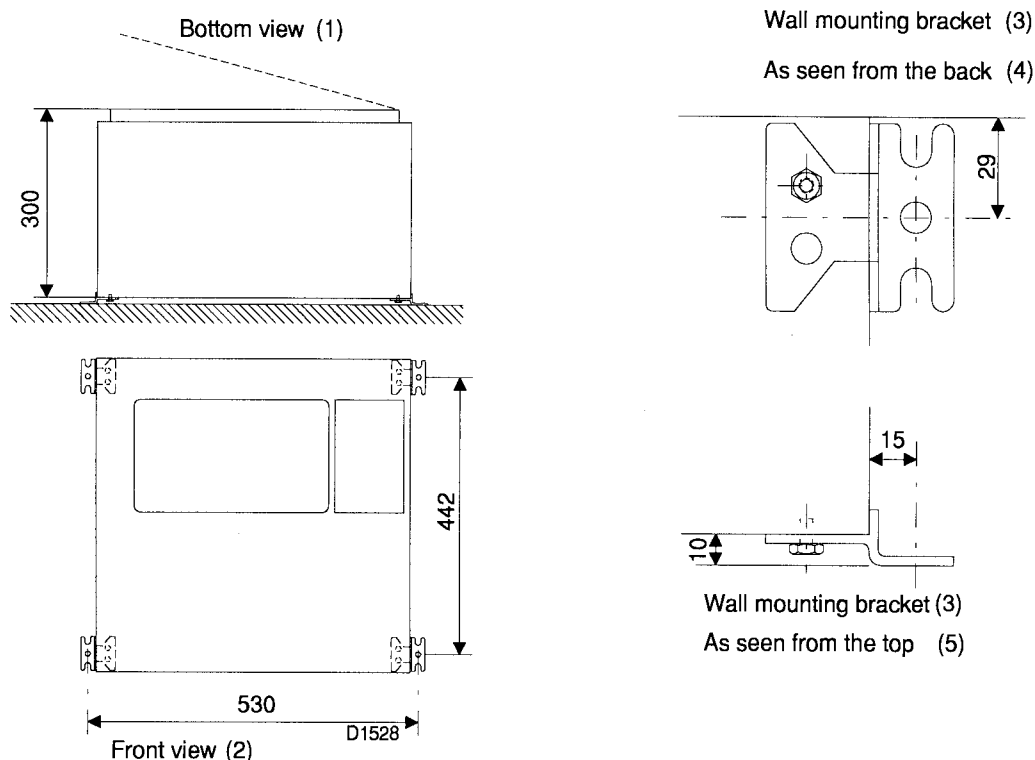

Fig. 2.1. Dimension drawing
1. Mount the ES100 to a wall (Fig. 2.1) in the room taking into account the maximum cable length of 15 m to the pressure sensor and 1000 m to each compressor regulator.